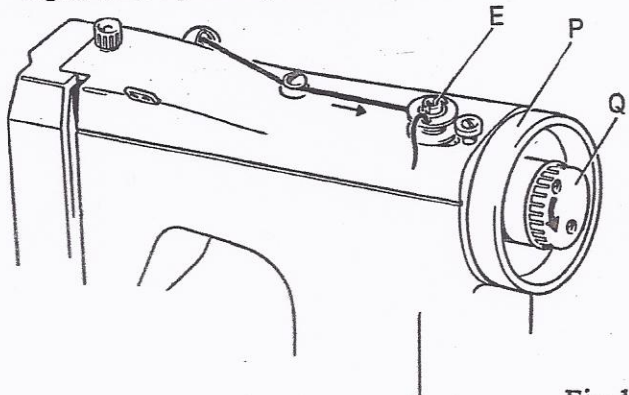

Fig. 1
- Balance wheel must always be turned in the direction of the arrow in fig. 1.
- Turn the balance wheel «P» (fig. 1) in the direction of the arrow, so as to bring the needle clamp to its highest position.
- Disconnect balance wheel «P» (fig. 1) by holding it with a hand and by turning knob «Q» in the direction of the arrow.